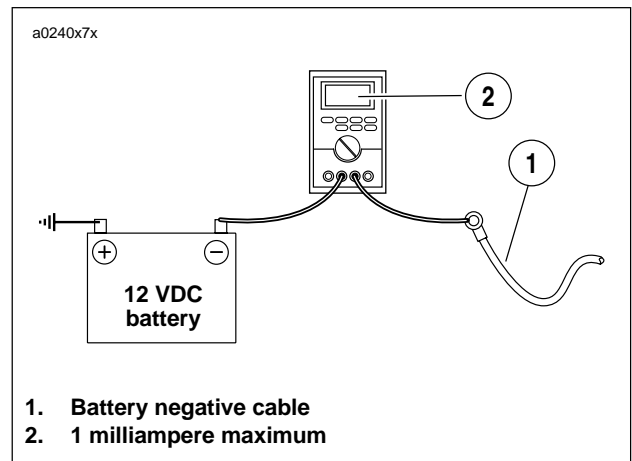

Figure 7-46. Milliamperere Draw Test with Ignition Turned to OFF Position
1. See Figure 7-46. Connect ammeter between negative battery terminal and battery. With this arrangement, you will also pick up any regulator drain.